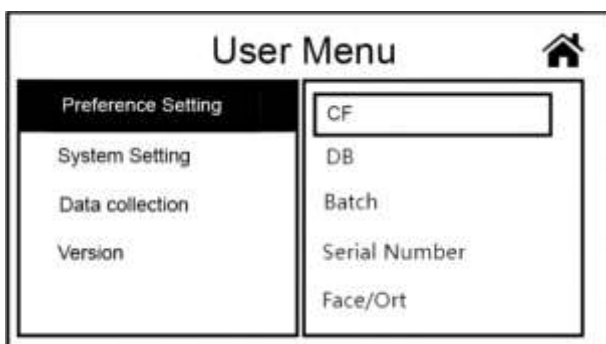
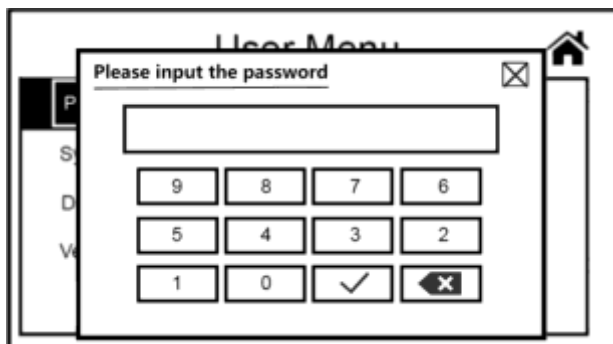

Figure 47
Figure 48
2) As in Figure 47, touch the first “CF” button on the display. Enter into the CF SETTING interface, need to input the password 0508 first, as in Figure 48.